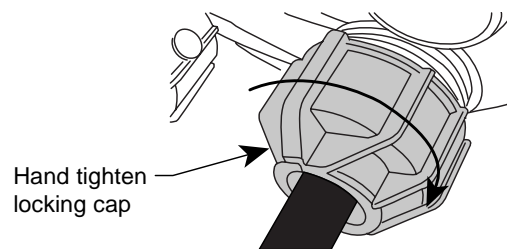

Figure 8
3. Engage the locking cap onto the endcap threads 2 to 3 turns only by hand (Figure 8).
5. Engage the locking cap onto the endcap threads 2 to 3 turns only by hand (Figure 8).